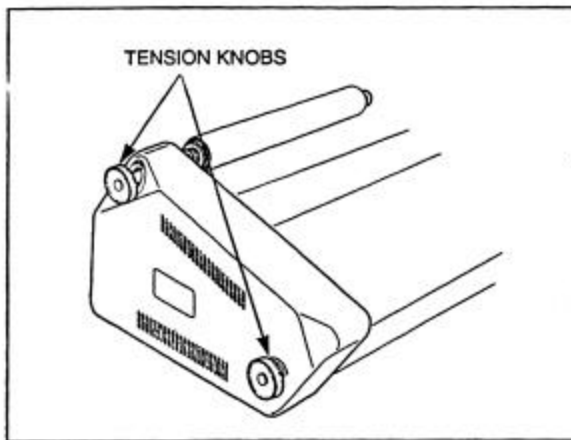

Fig. 15
1. The machine is equipped with external tension knobs located on the **left side**, (Figure 15). Turning the knobs clockwise **increases** the tension while counterclockwise **decrease** the tension.